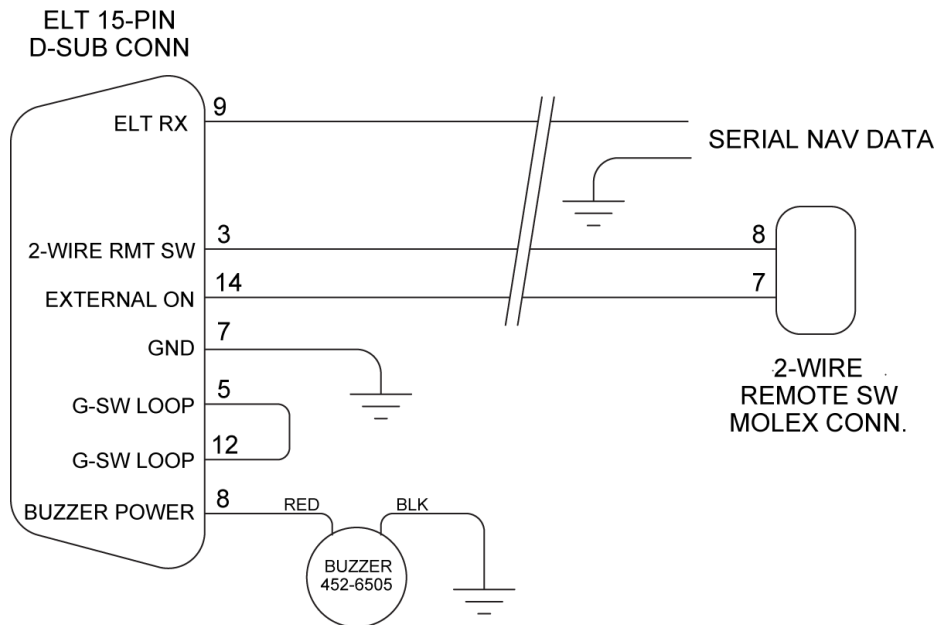

Figure 20 Typical 2-Wire Installation for Unshielded Harness
- 1) Insert the wiring pins into the Molex 9-pin cockpit remote switch plug. Refer to Figure 20 Typical 2-Wire Installation for Unshielded Harness on page 48, Figure 21 Typical 2-Wire Installation for Shielded Harness on page 49, Figure 22 Typical 5-Wire Installations for Metal Airframes on page 50, and Figure 23 Typical 5-Wire Installations for Composite Airframes on page 51.